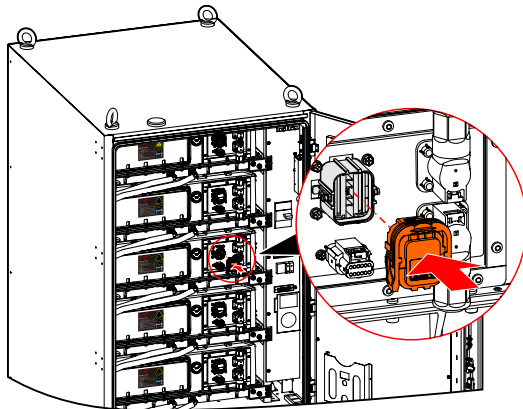

Figure6-2 Install MSD plug
- Step 1 Open the upper door and install the MSD plug to the middle lithium module, as shown in Figure6-2